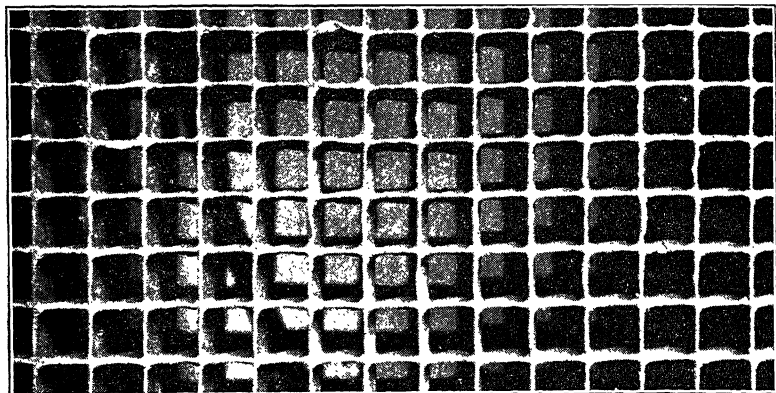

Fig. 9. Section of a Square Honeycomb Radiator Core
*Square Honeycomb Core.* The square honeycomb is illustrated in Fig. 9. This type of construction makes use of a larger number of tubes which run from the front of the radiator to the rear, the ends being soldered together. When this construction is used, water, which leaves the upper tank, may flow in practically any direction as it is cooled and passes downward. By this is meant that it is not necessary for the water to flow directly down since it may go completely around one of the honeycomb or small tubes.